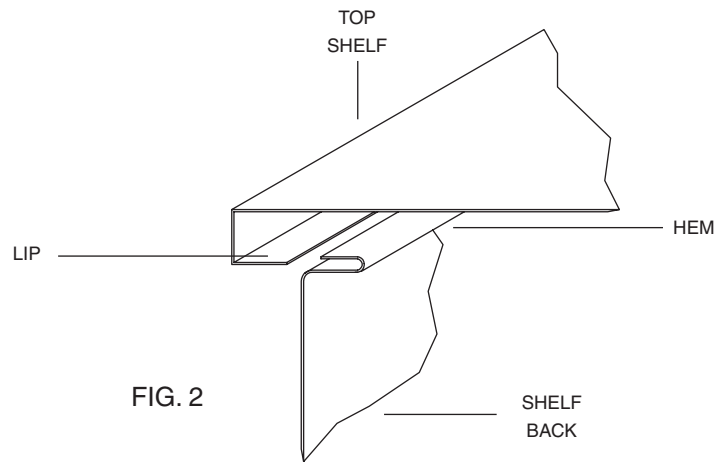

FIG. 2
2. Push hem of "shelf back" onto lip of the top shelf (Figure 2).
2. Set the bottom shelf into position by locating the side flanges of the shelf into the lower support flanges of the side panels (Figure 2).
3. Press the bottom shelf down and adjust until the (4) screw holes in the shelf side flanges are visible through the slots in the side panel lower support flanges.